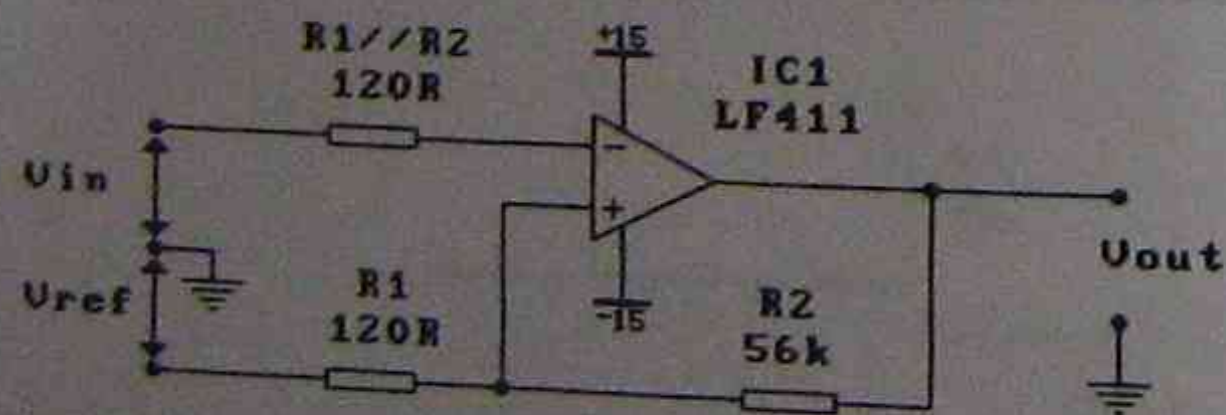

Fig.3.
4. The circuit of Fig.3 is a Schmitt trigger, with V_{ref} set to 0V.